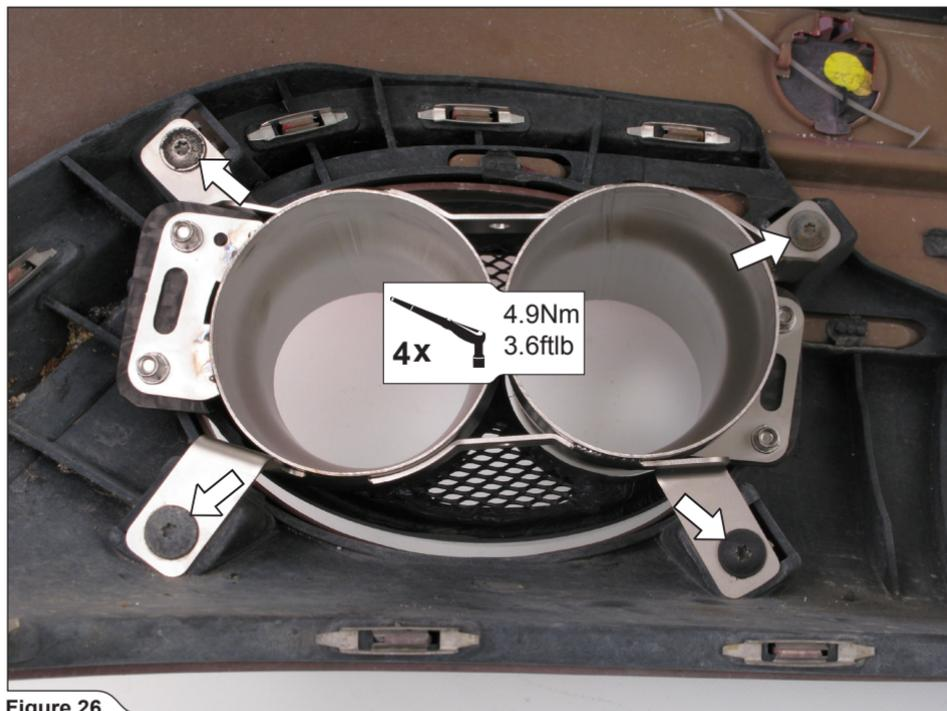

Figure 26
9. For RS4 only: attach the Akrapovič tail pipes onto the bumper, using stock bolts (Figure 26).